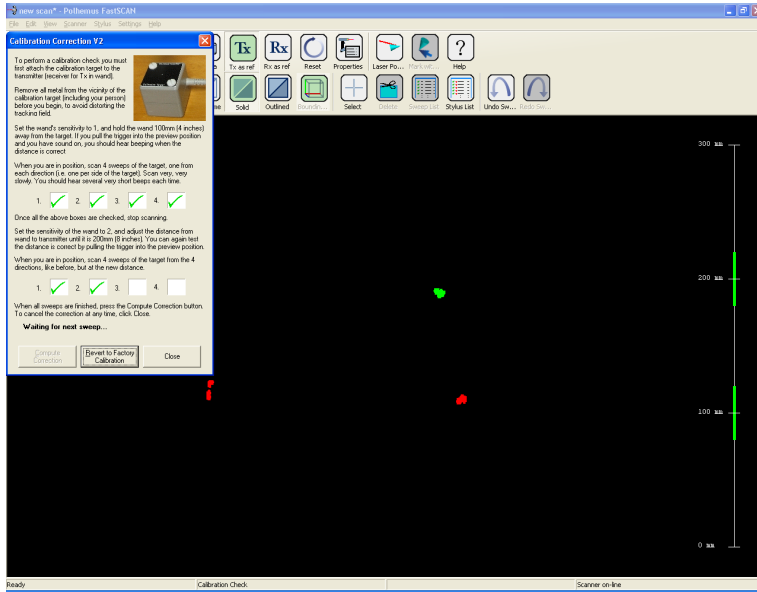

Figure 29: Three of the four calibration spot clusters are visible (for the *Scorpion™*) and the **Calibration Correction** dialog box.
5. Click on **Scanner/Calibration Correction....** The background color of the *FastSCAN*TM window will change to black and the **Calibration Correction** dialog box will appear (Figure 29).
13. After making all eight measurements there should be two clusters of points in the *FastSCAN*TM window (Figure 29): one representing the data collected at 100 mm and the other the data collected at 200 mm. In each cluster, there should be four red spots.